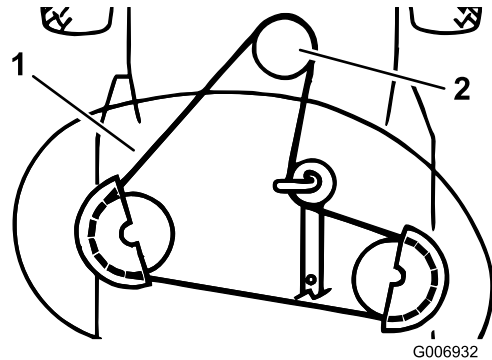

**Figure 52**
9. Remove the hairpin cotter and washer from the end of the long rod (Figure 52). Slide the rod out of the cutter deck mount.
10. Remove the hairpin cotter and washer at the cutter deck leveling bracket (Figure 52). Slide the bracket